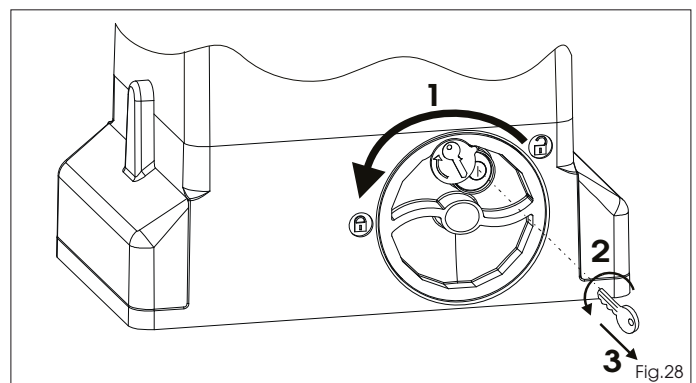

Fig. 28
- 1) Turn the release system anti-clockwise, until its stop is reached, Fig. 28 ref. 1.
- 2) Turn the key anti-clockwise and remove it from the lock, Fig. 28 ref. 2 and 3.